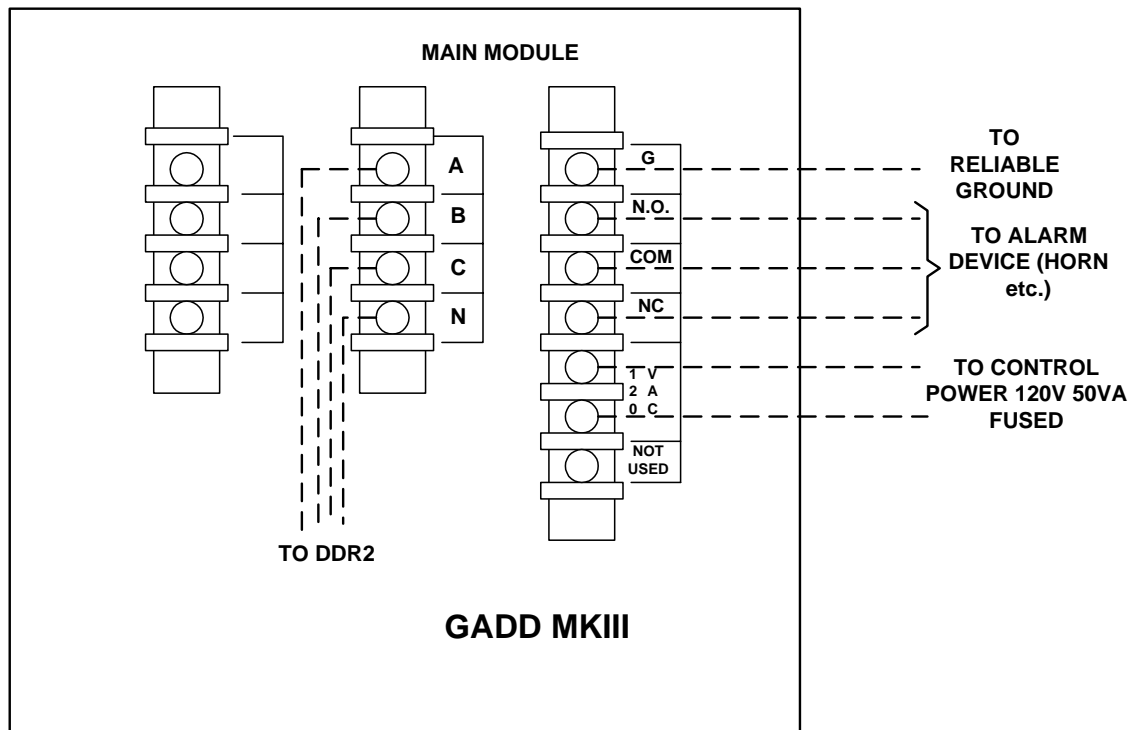

Figure 3 Connection Diagram for GADD MKIII
- FIG. 3 Connection Diagram for GADD MKIII